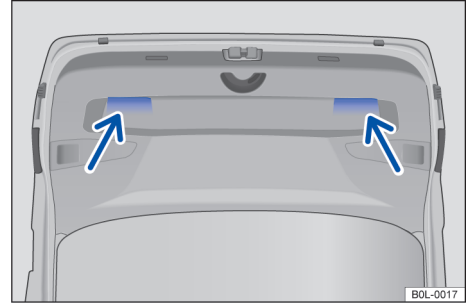

Fig. 50 Open tailgate: recessed handle for closing the tailgate
- Hold the recessed handle → Fig. 50 on the tailgate interior panel and pull the tailgate down slightly until it snaps into the tailgate lock → ⚠.